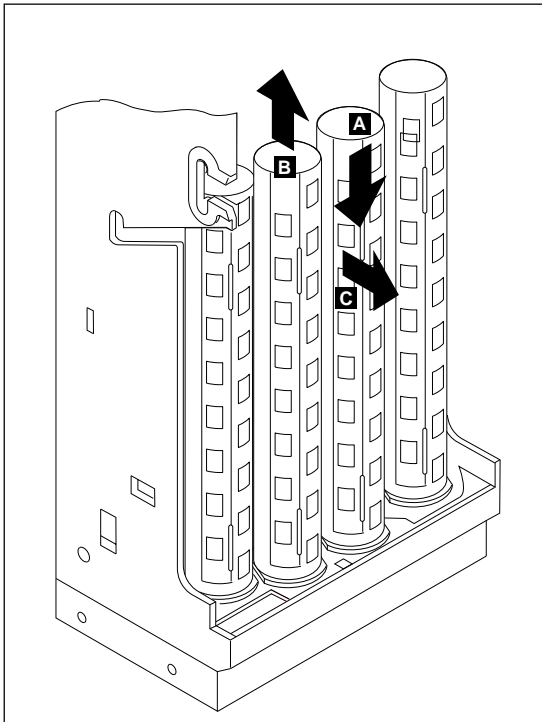

Fig. 12: Dismantle first tube
4. Push one of the middle tubes downwards (**A**) and pull the tube next to it upwards (**B**) to lift the partition, now remove tube towards the front (**C**) (see fig. 12).